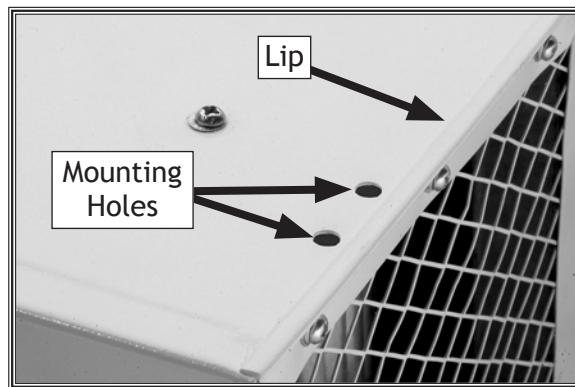

Figure 16. Flange bracket mounting holes and lip.
3. Position (1) flange bracket under air filter lip at mounting hole location (see **Figure 16**). For permanent table-top mounting, use the lower-lip holes.